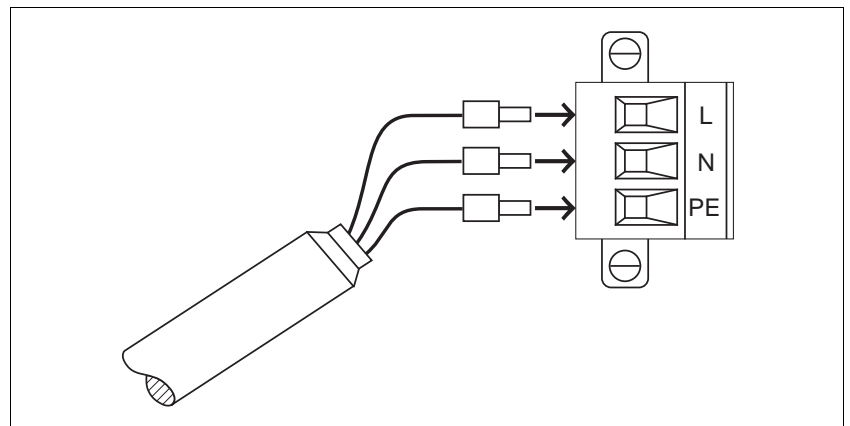

Fig. 2-5 Mains connection – device end
3. Fasten three litz wires (fig. 2-5) with screws: